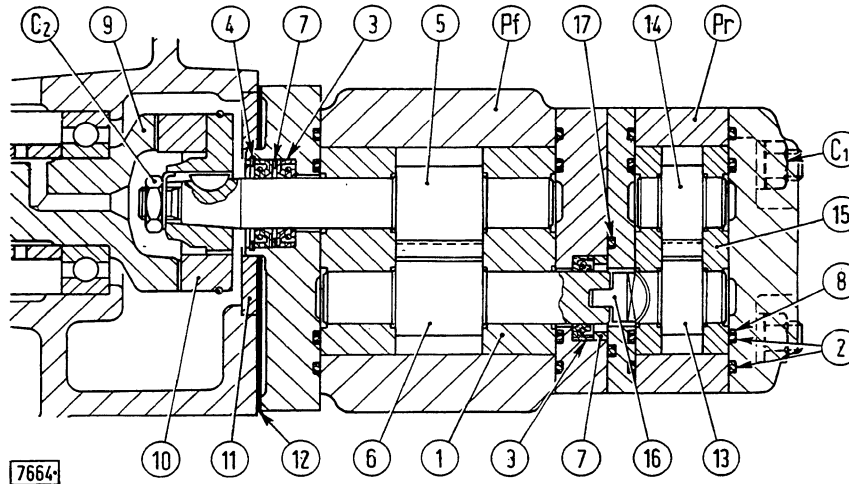
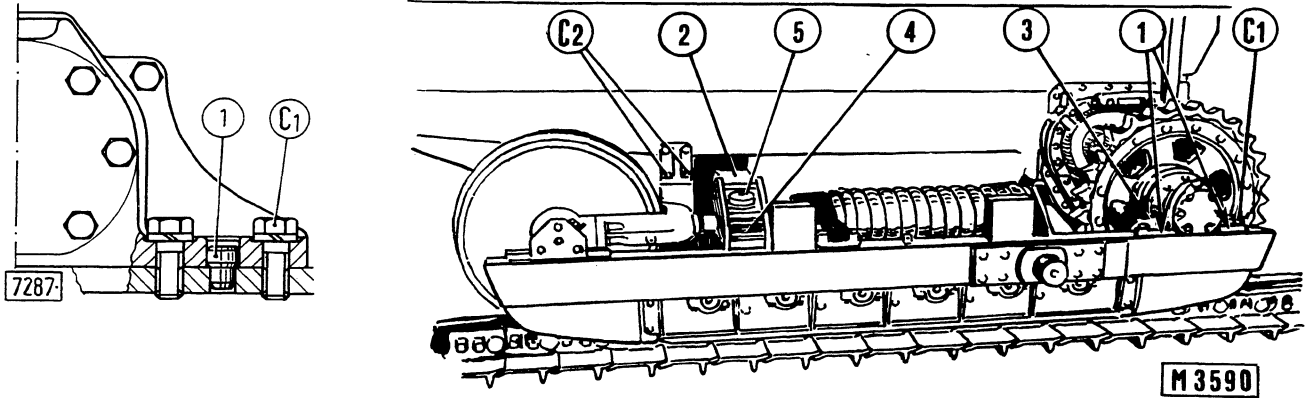

Fig. 33 - Longitudinal section of hydraulic pump for steering clutches (Pf) and converter recovery (Pr) (Model 14-C converter).
Fig. 27 - LH track frame.
- Remove the two carrier rollers and both suspension beam retaining pins (5, Fig. 27).
- Remove connecting plate (3, Fig. 31), cap (6, Fig. 33) and screws (C₁, Fig. 27).